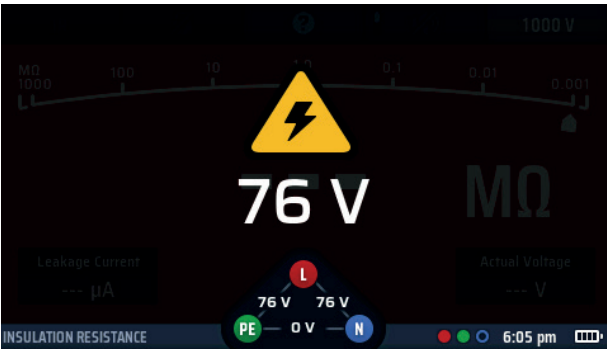

Fig 22: Live circuit warning screen
- The test voltage you have selected is shown on Hot key 5. The instrument also shows the actual test voltage at the lower right of the display.
- If you have an insulation test selected and you connect the test-leads to a circuit carrying a voltage greater than the live voltage limit, a lightning warning symbol flashes in the display, an audible warning sounds and the voltage widget appears, as shown in fig 22 and 23.